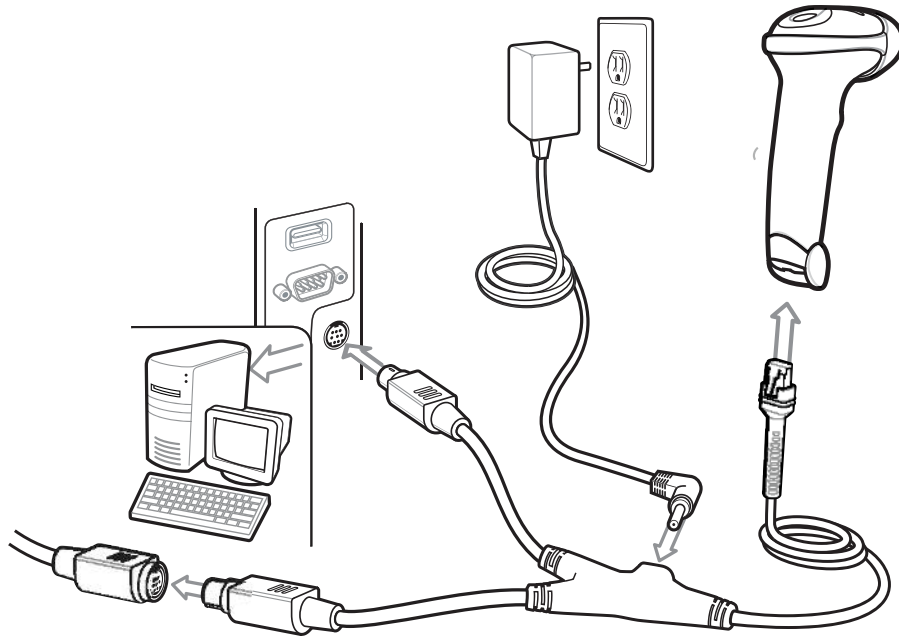

Figure 6-1 Keyboard Wedge Connection with Y-Cable
- ✓ **NOTE** Interface cables vary depending on configuration. The connectors illustrated in Figure 6-1 are examples only. The connectors may be different than those illustrated, but the steps to connect the scanner remain the same.